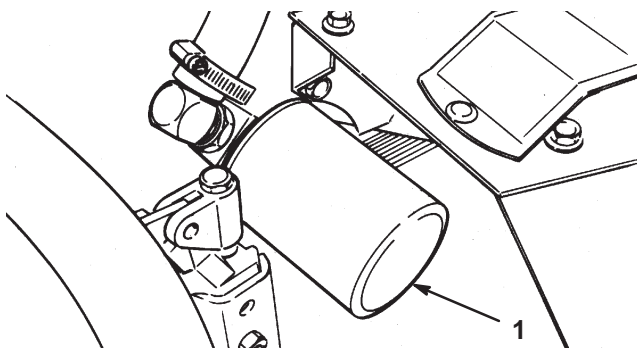

Figure 51
3. Clean the area around the hydraulic oil filter (Fig. 51). Remove the filter from the bottom of the filter housing and allow the oil to flow into a drain pan. Use a bottom type filter wrench. Dispose of the oil filter properly.